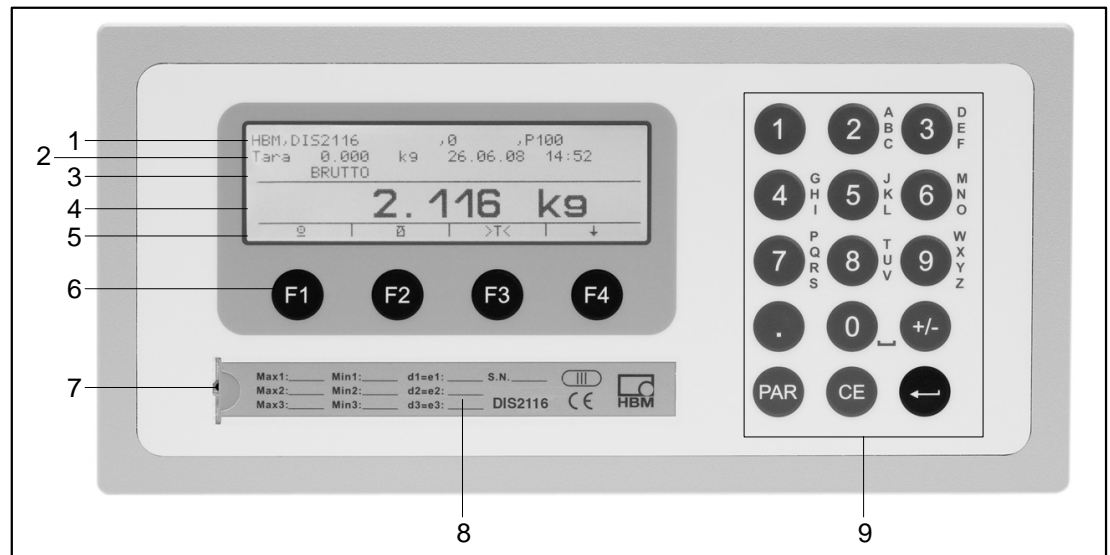

Fig. 6.1: DIS2116 front panel
- Hidden pushbutton for access to the calibration menu (see Fig. 6.1).